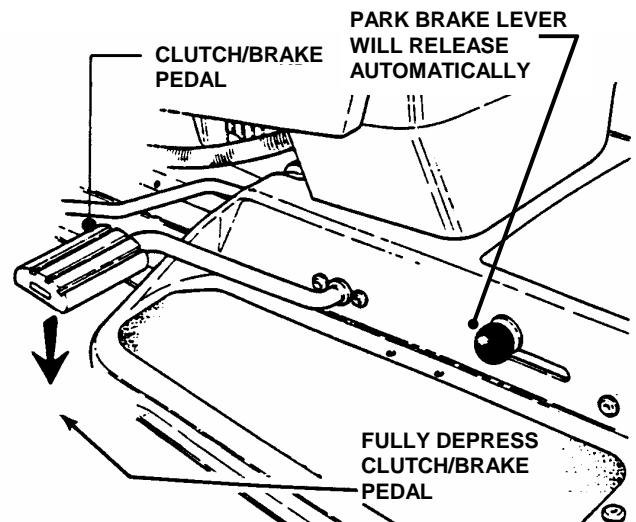

FIGURE 2.13
1. Fully depress clutch/brake pedal. Move park brake lever "DOWN" to release park brake. Release clutch/brake pedal. See Figure 2.13.